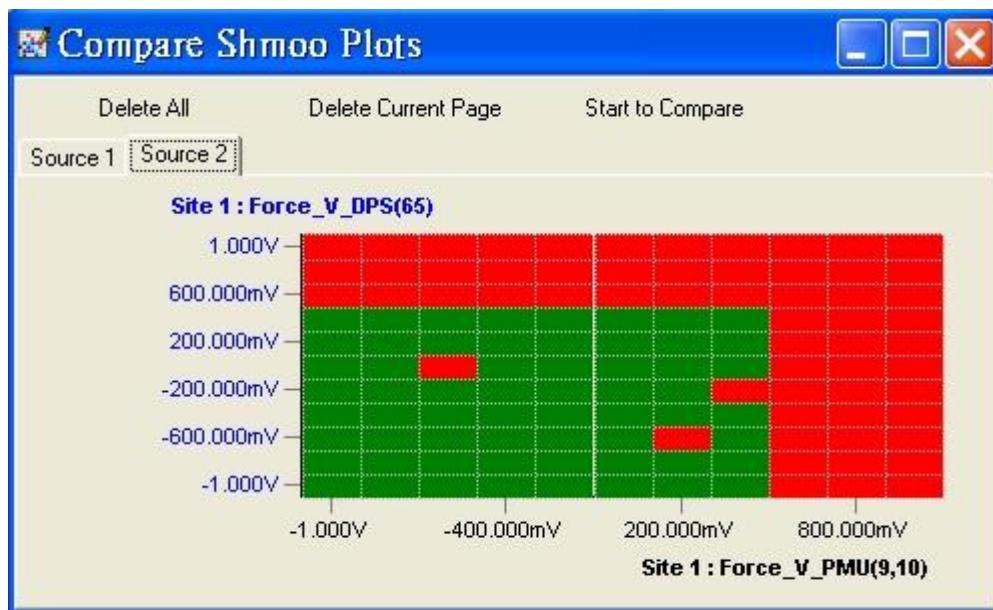

Figure 11-16 Page Compare (2)
- (2) Add one more page to be compared (Figure 11-16).